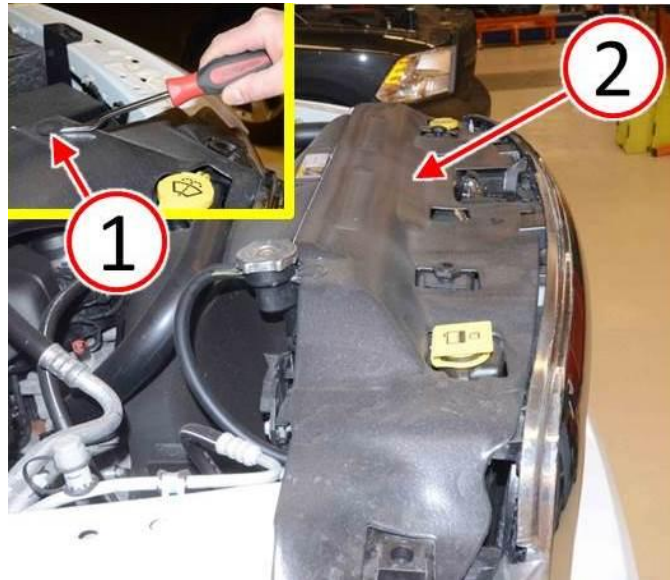

Fig. 1 Remove Upper Radiator Seal
1. Remove the six push pin fasteners (1) from upper radiator seal (Fig. 1).
2. Remove the upper radiator seal (2) (Fig. 1).